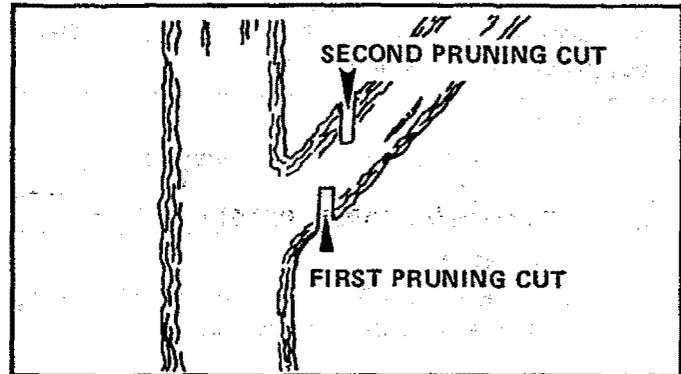

Figure 35
- b. Refer to Figure 35 for the pruning technique.